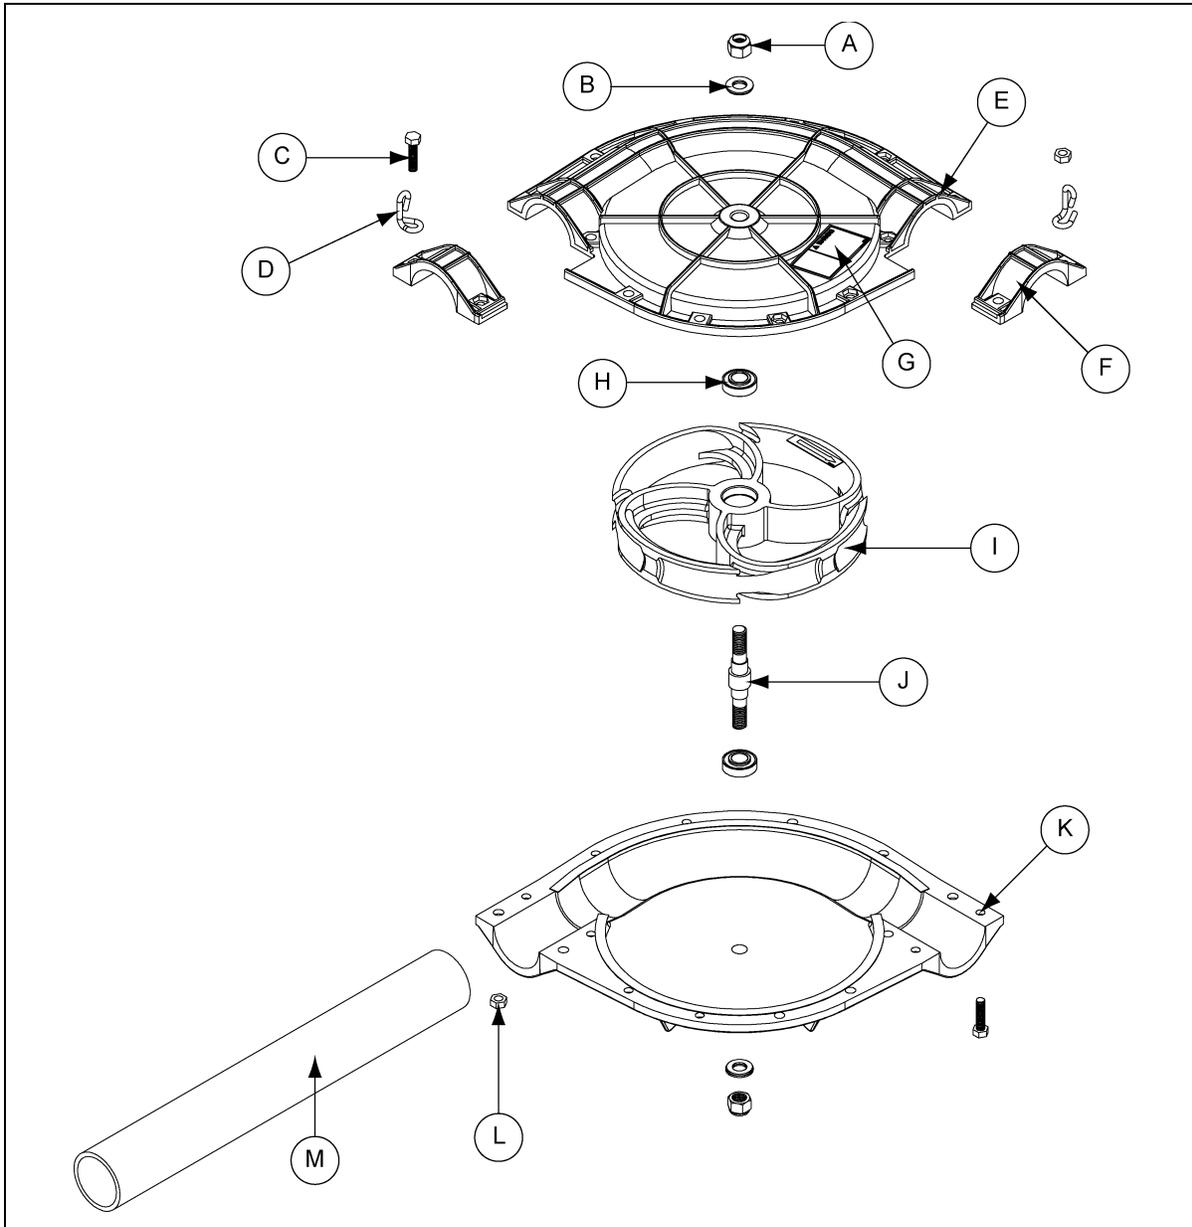

Figure 8B Vertical and Inclined Corner Installation and Suspension
2. Replace the 1/2" neoprene backed flat washer and 1/2" lock nut on the pivot shaft to retain the idler wheel from being pulled off during chain and disk installation. The top of the corner can remain off until after the chain and disks are installed. Corner must be suspended using the two (2) wire suspension angles provided to avoid tubing wear. Use one wire suspension angle on each side of the corner. (See Figure 8A below and Figure 8B on Page 23.) Place wire suspension angles over the add on clamps so that corners will be supported before tops are installed.
**IMPORTANT:** Two (2) corner wire suspension angles must be used to support each corner. Failure to properly suspend corners will void warranty.